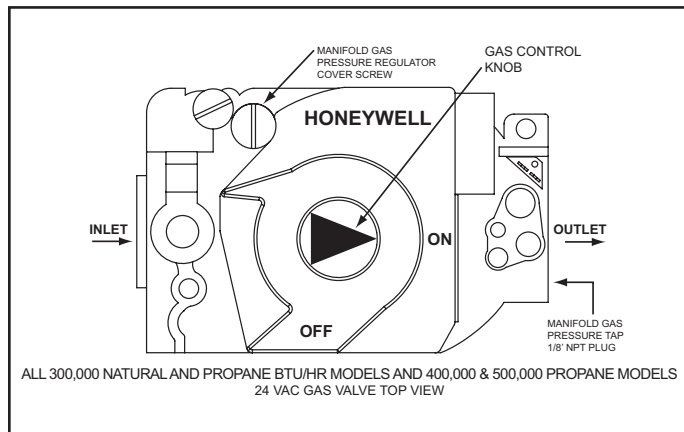
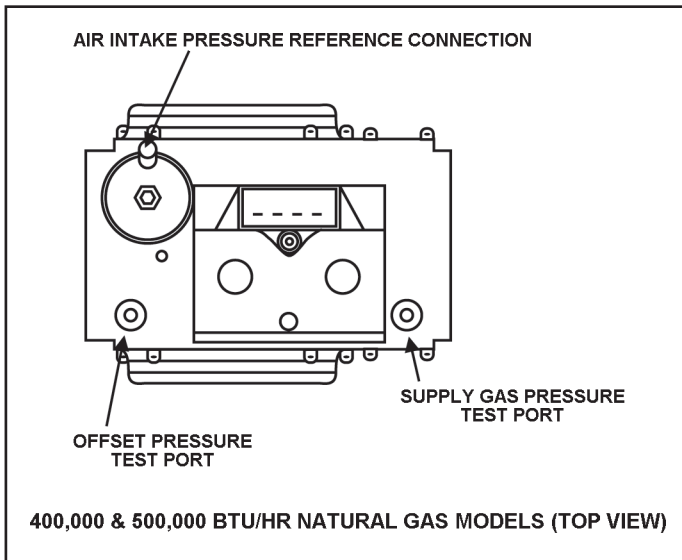

Figure 56
Figure 57
4. Push in the gas control knob slightly and turn to the "off" position, see Figure 56 on page 51.
5. Wait five (5) minutes for any residual gas to clear.
6. Connect one manometer (higher range) to an available test port on the supply gas line at the water heater. There is a 1/8" NPT Tee fitting and pipe nipple installed for the Low Gas Pressure switch on the inlet side of the 24 VAC Gas Valve with a 1/8" NPT plug for this purpose. For SUF 130 400 and 500 natural gas models, connect the manometer to the supply gas pressure test port, Fig 57 on page 52.
7. Connect one manometer (lower range) to the manifold gas pressure tap at the outlet of the 24 VAC Gas Valve, see Figure 56 on page 51 and Figure 57 on page 52 for location.
1. Push in the gas control knob slightly and turn to the "on" position, see Figure 56 on page 51.
2. Remove the manifold gas pressure regulator cover screw, see Figure 56 on this page 51.
3. Push in the gas control knob slightly and turn to the “off” position, see Figure 56 on page 51 and Figure 57 on this page.